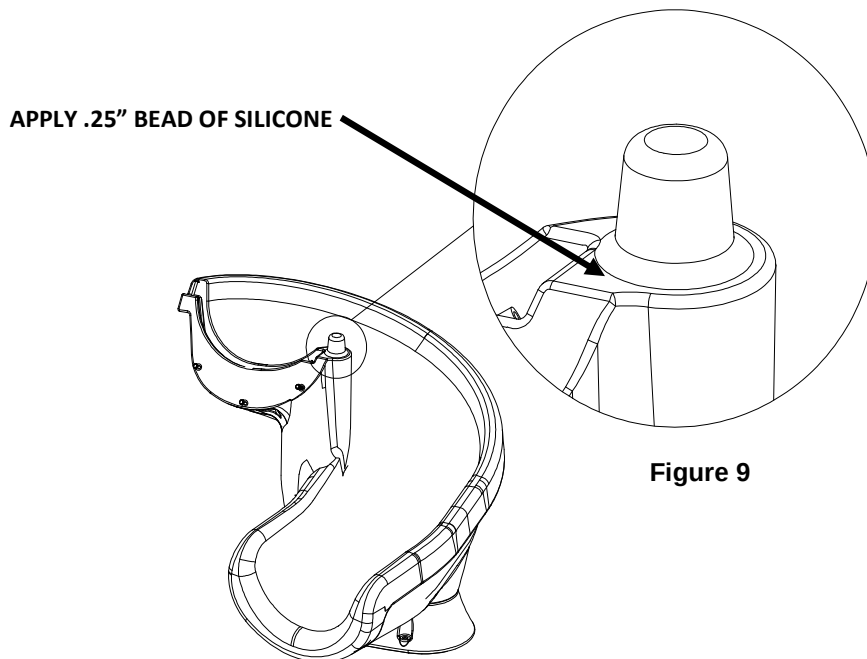

Figure 9
- 10) Apply a .25 inch bead of Silicone sealant (Silicone II or similar) around the base of the cone of the slide's center column. See Figure 9.